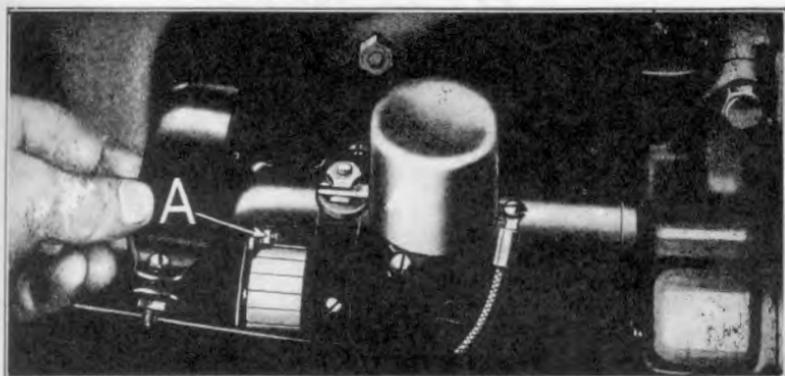

Fig. 484
- (b) Loosen the third brush nut (See "A" Fig. 484) and shift the third brush to the left as far as possible i. e. toward the engine.